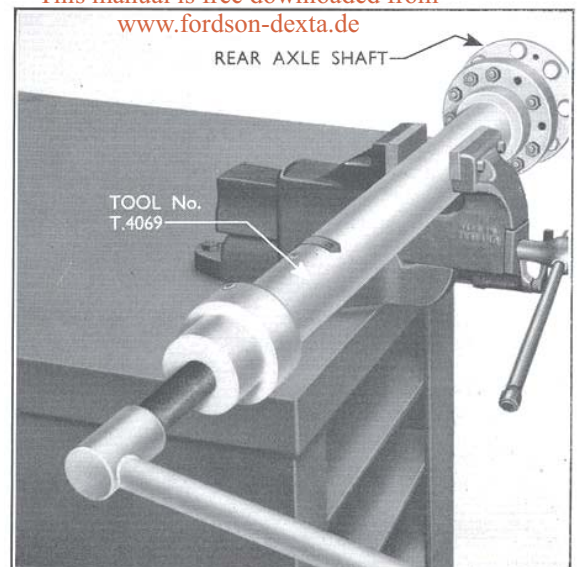

Fig. 7
7. Remove the bearing retainer by clamping Tool No. T.4069 in a vice as shown in Fig. 7, fit the axle shaft inside the tool and secure the bearing retainer to the tool flange using the bearing retainer nuts.
8. Use the large wrench to turn the centre screw and withdraw the bearing retainer assembly (see Fig. 7). The bearing spacer may then be removed from the shaft and the bearing cone from the retainer.